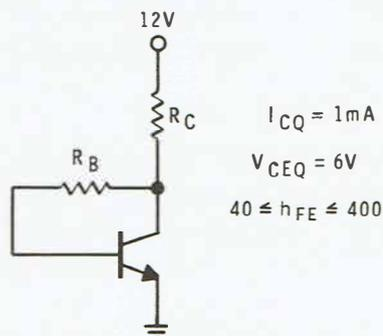

Figure E2-4
6. Using the value of h_{FE} obtained in step 4, calculate the values required for R_C and R_B in Figure E2-4.
11. Using the first transistor, T_1 , construct the circuit shown in Figure E2-4. In this case, $R_C = 5.6\text{k}\Omega$ and $R_B = 0.68\text{M}\Omega$. Turn the power on and record the measured values of I_{CQ} and V_{CEQ} in the T_1 row of Table E2-2. Once you have recorded the measured values of I_{CQ} and V_{CEQ} , shut the power off.
19. Construct the collector feedback circuit in Figure E2-4. Here $R_C = 5.6k\Omega$ and $R_B = 0.68M\Omega$. Record the initial value of V_{CE} .